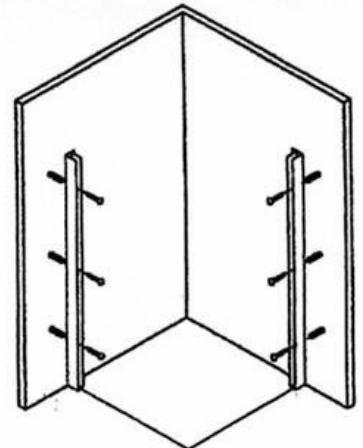

Fig 2
3. Using the three Screw **BB4301**, Screw cover caps **BB2302** and screw cover cap clips **BB2303**, fix each wall profiles to wall. **Fig 2**.